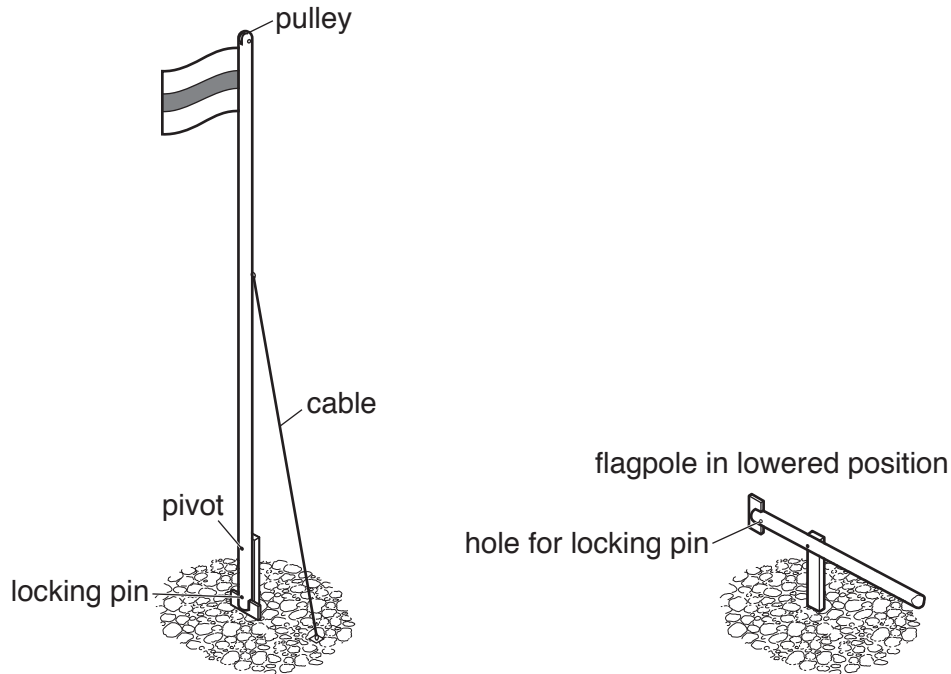

Fig. 6
- (c) Fig. 6 shows a flagpole made from aluminium tube. The flagpole can be rotated about a pivot for maintenance of the pulley at the top. The raised flagpole is held in position by a locking pin. Cables are used to stabilise the raised flagpole in high winds. One cable is shown in position. One cable is shown in position.